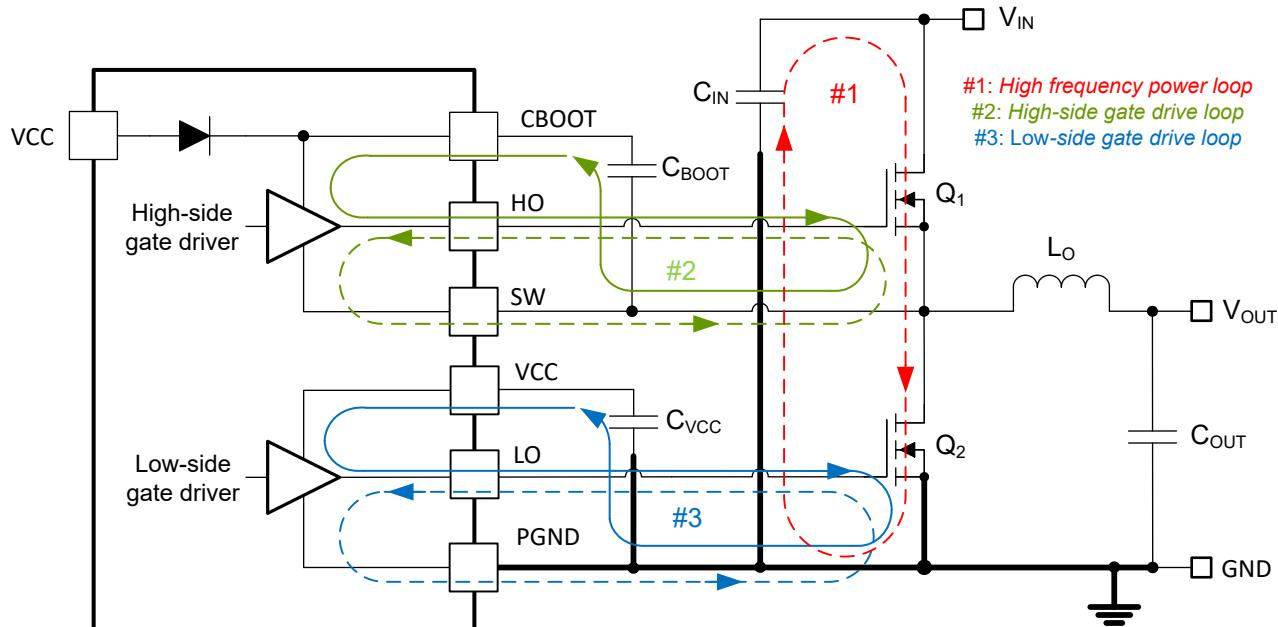

图 9-47. DC/DC Regulator Ground System With Power Stage and Gate Drive Circuit Switching Loops
Proper PCB design and layout is important in a high-current, fast-switching circuit (with high current and voltage slew rates) to achieve a robust and reliable design. As expected, certain issues must be considered before designing a PCB layout using the LM5149. The high-frequency power loop of a buck regulator power stage is denoted by loop 1 in the shaded area of 图 9-47. The topological architecture of a buck regulator means that particularly high di/dt current flows in the components of loop 1, and it becomes mandatory to reduce the parasitic inductance of this loop by minimizing its effective loop area. Also important are the gate drive loops of the high-side and low-side MOSFETs, denoted by 2 and 3, respectively, in 图 9-47.
- Loop 1: The most important loop area to minimize is the path from the input capacitor or capacitors through the high- and low-side MOSFETs, and back to the capacitor or capacitors through the ground connection. Connect the input capacitor or capacitors negative terminal close to the source of the low-side MOSFET (at ground). Similarly, connect the input capacitor or capacitors positive terminal close to the drain of the high-side MOSFET (at VIN). Refer to loop 1 of 图 9-47.
5. The SW pin connects to the switch node of the power conversion stage and acts as the return path for the high-side gate driver. The parasitic inductance inherent to loop 1 in 图 9-47 and the output capacitance (C_{oss}) of both power MOSFETs form a resonant circuit that induces high frequency (greater than 50 MHz) ringing at the SW node. The voltage peak of this ringing, if not controlled, can be significantly higher than the input voltage. Make sure that the peak ringing amplitude does not exceed the absolute maximum rating limit for the SW pin. In many cases, a series resistor and capacitor snubber network connected from the SW node to GND damps the ringing and decreases the peak amplitude. Provide provisions for snubber network components in the PCB layout. If testing reveals that the ringing amplitude at the SW pin is excessive, then include snubber components as needed.
- Loop 2: high-side MOSFET, Q_1 . During the high-side MOSFET turn-on, high current flows from the bootstrap (boot) capacitor through the gate driver and high-side MOSFET, and back to the negative terminal of the boot capacitor through the SW connection. Conversely, to turn off the high-side MOSFET, high current flows from the gate of the high-side MOSFET through the gate driver and SW, and back to the source of the high-side MOSFET through the SW trace. Refer to loop 2 of 图 9-47.
- Loop 3: low-side MOSFET, Q_2 . During the low-side MOSFET turn-on, high current flows from the VCC decoupling capacitor through the gate driver and low-side MOSFET, and back to the negative terminal of the capacitor through ground. Conversely, to turn off the low-side MOSFET, high current flows from the gate of the low-side MOSFET through the gate driver and GND, and back to the source of the low-side MOSFET through ground. Refer to loop 3 of 图 9-47.